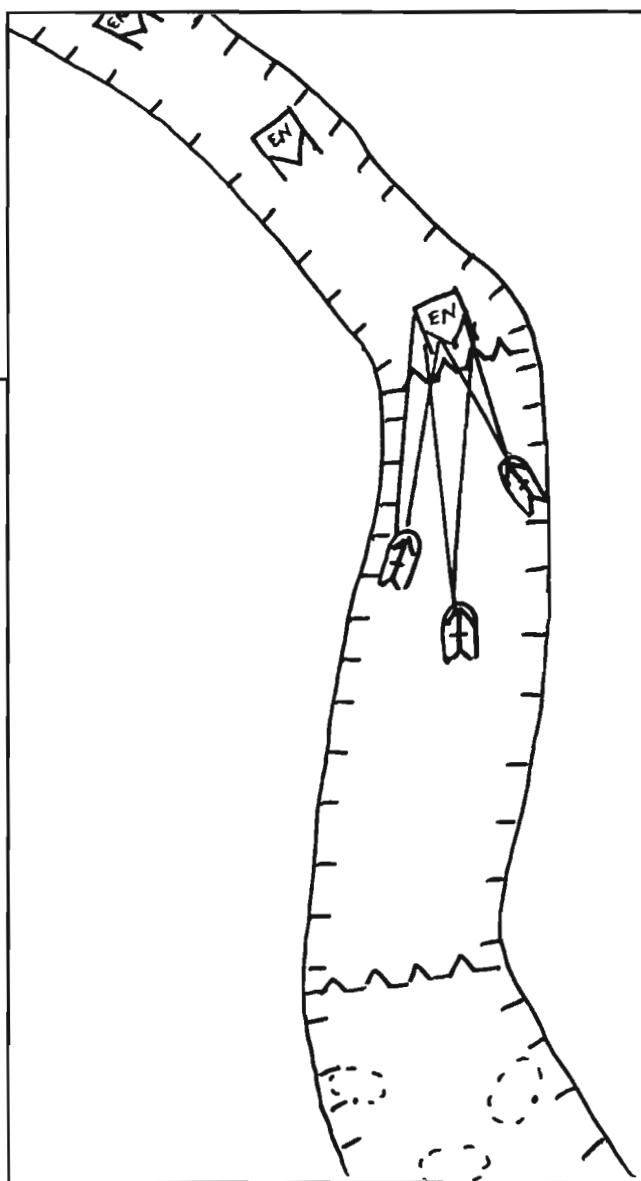

Figure 2
- Position subsequent ambush sites in depth — If the enemy feels that this avenue is valuable enough, he may try again, sending additional vehicles, even if one is caught in an ambush. To prevent him from breaching and clearing the obstacles of an initial ambush, plan additional ambush sites in depth along the length of the avenue. Ensure each position is prepared, with rounds cached at each location, and always monitor the current location of the ambush team if they have displaced from original positions. Figure 2 illustrates how to apply these principles.